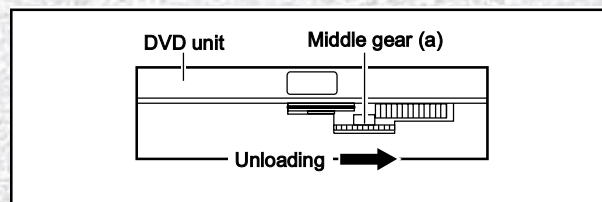

Fig.5-2a
- (1) Unplug the power cord plug from the power outlet.
- (2) Remove the top cover and front panel assembly. (Refer to the disassembly procedure and perform the disassembly of the major parts before removing)
- (3) Turn the Middle gear (a) by hand to open the disk tray. (See Fig. 5-2a)